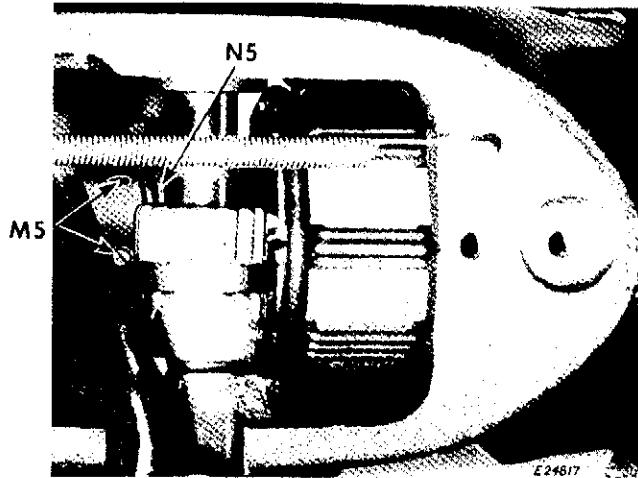

Fig. 84. Adjusting Needle Pendulum Movement
To time the pendulum movement of the needle bar, loosen two set screws **M5**, Fig. 84 in the worm gear **N5**, Fig. 84 in the gear box on top of the machine and free gear **N5** from arm shaft.
toward the operator or away from the operator while keeping gear **N5** in place by holding a screwdriver over one of two set screws **M5**, Fig. 84. When a desired setting is obtained, tighten one of the set screws **M5** and recheck pendulum movement. If results are satisfactory, securely tighten both screws.
9. If needle is not at correct height when the click is heard, loosen set screws **M5**, Fig. 84 in worm gear **N5** on arm shaft and slide gear to right or left to correct the condition.
Release FASHION disc follower frame. If the FASHION disc follower frame stud seats in the square slot of the gauge, no adjustment of the worm gear **N5**, **Fig. 84** on arm shaft is necessary.
4. Loosen two screws **M5**, **Fig. 84** which hold driving worm gear to arm shaft.
7. Tighten securely one of two set screws, **M5**, **Fig. 84** on arm shaft driving worm gear.
9. Rotate arm shaft with hand wheel and securely tighten second screw **M5**, **Fig. 84** on gear **N5**.